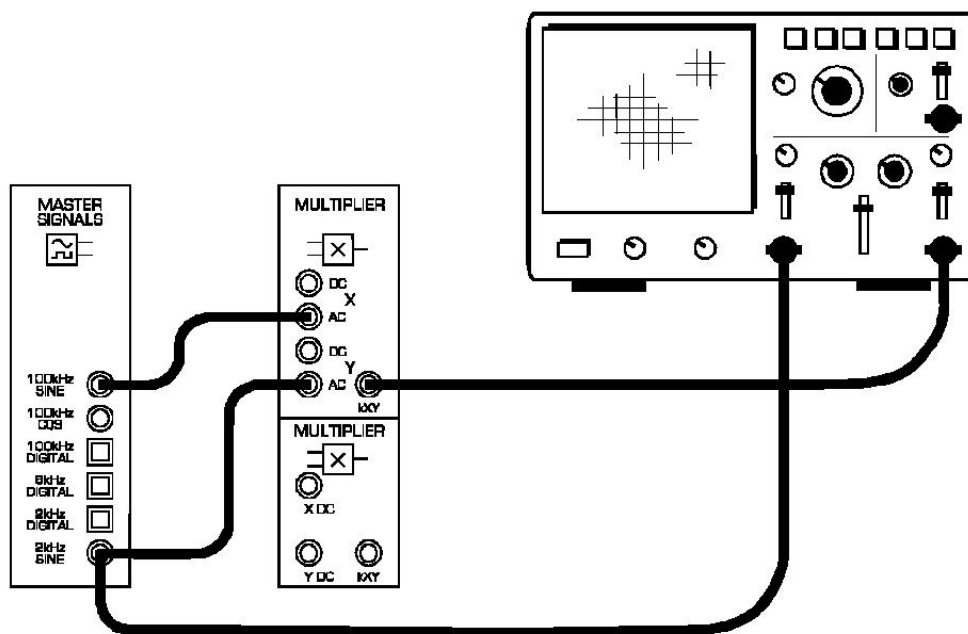
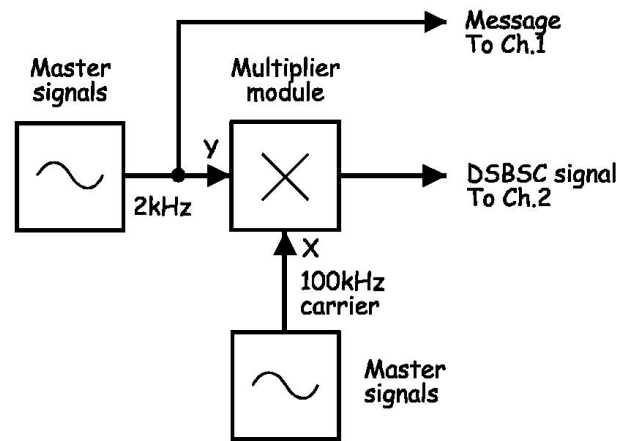

Figure 6:
Figure 7:
3. Connect the setup as shown in Figure 6.
The setup in Figure 6 can be represented by the block diagram in Figure 7. It generates a 100kHz carrier that is DSBSC modulated by a 2kHz sinewave message.